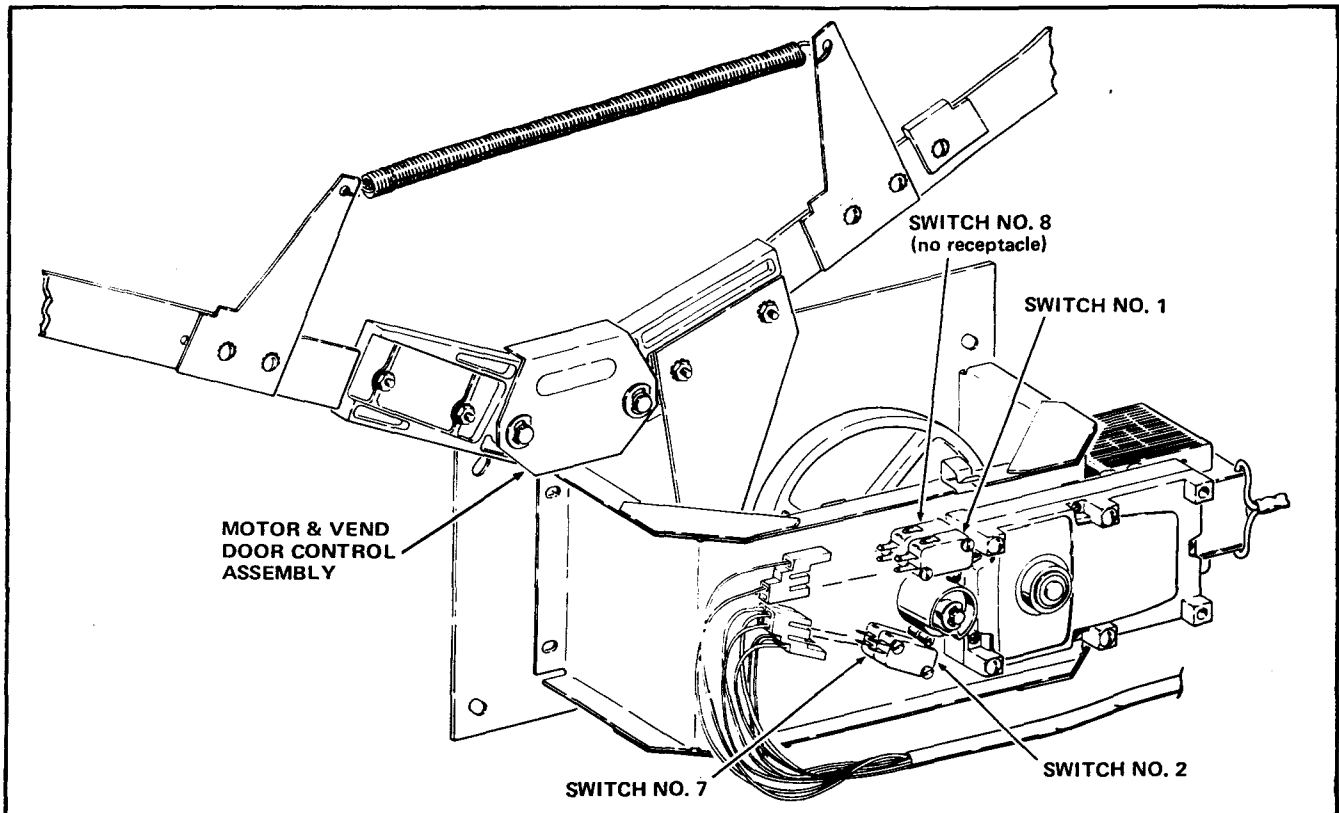

FIGURE 7
5. The Delivery Door Switches are numbered in Figure 7. Connect the Delivery Door Harness to three of the four Delivery Door Switches on the Motor and Vend Door Control Assembly. Switch No. 8 will NOT be attached to the Delivery Door Harness. Match the correct Switch Receptacles to the correct Delivery Door Switches by wire color as follows: